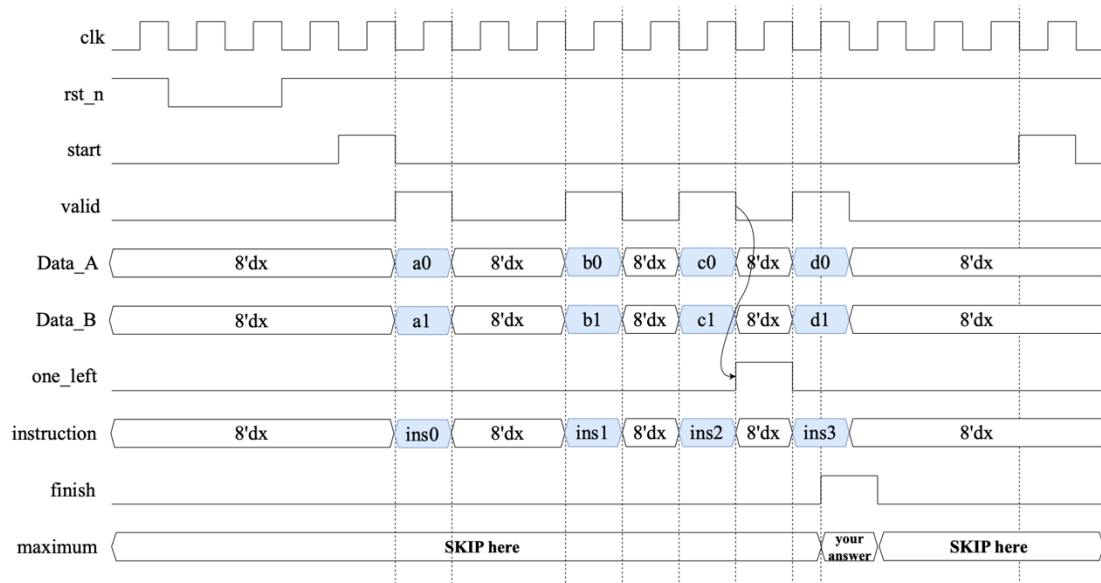

Fig. 3. An example of the waveform
(3) Waveform
The waveform shown in Fig. 3 is an example where a sequence contains four integers. After the circuit is reset, it waits for the single-cycle *start* pulse to start reading the integers. After the single-cycle *start* pulse, data can be read and used when *valid* equals 1. **Note that *valid* might be pulled high at any cycle after the single-cycle *start* pulse, but high *valid* of continuous cycle will not be the case in this homework.** As we mentioned in (1) Problem Formulation, the number of integers to be read is not a fixed value, so *one_left* is used to indicate that one pair of integers is left to be read/computed. For example, if there are four pairs of integers to be computed, *one_left* becomes 1 for one cycle after the third pair of integers is read. Finally, when the correct *maximum* is computed, pull up a single-cycle high *finish* pulse at the same cycle. Every time after we finish all operations for two sequences, there may be another two sequences to be loaded into the circuit to do some operations, which